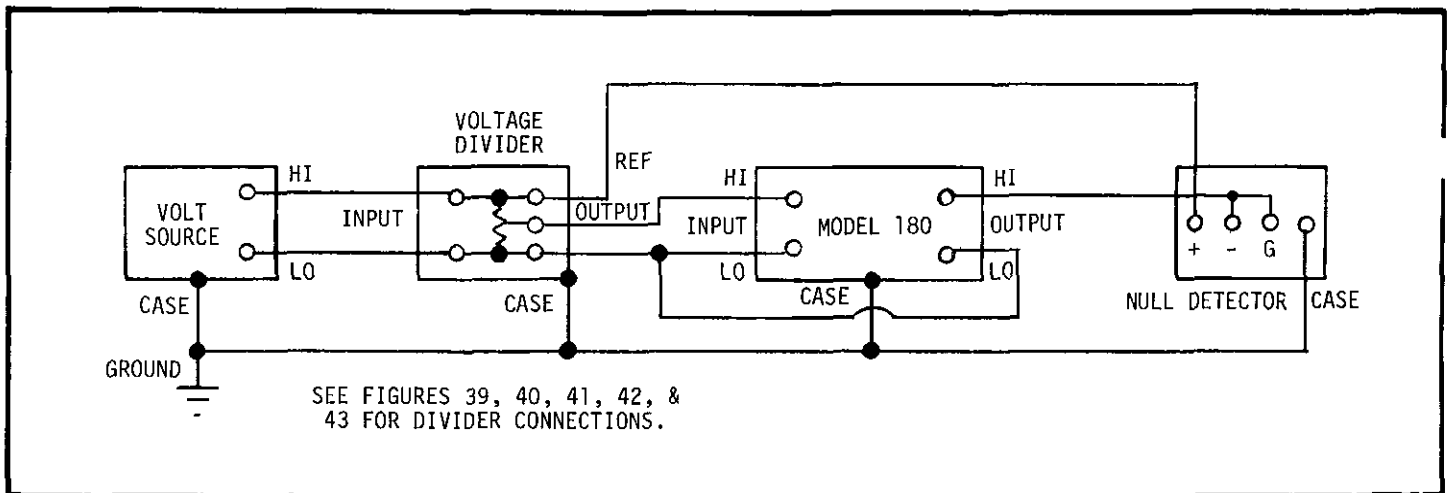

FIGURE 38. Test Set-up for Pre-Amp Gain Calibration.
1. Assemble test equipment as shown in Figure 38.